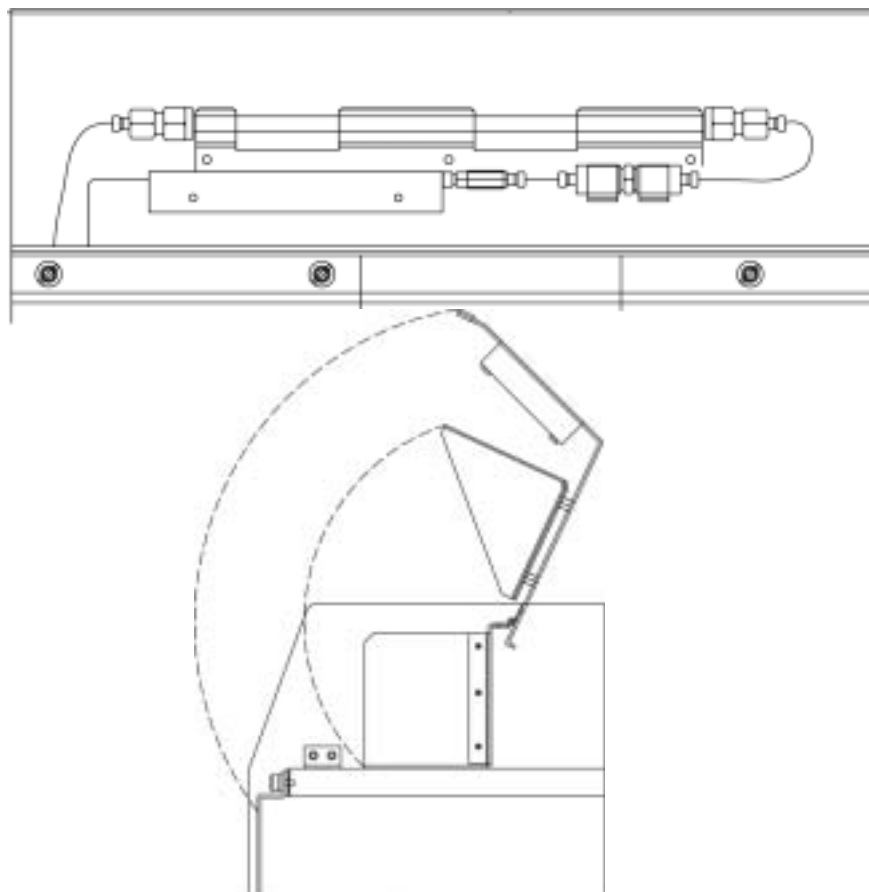

Figure 2-1
9. Stop the HPLC pump. Connect guard and column according to Figure 2-1.